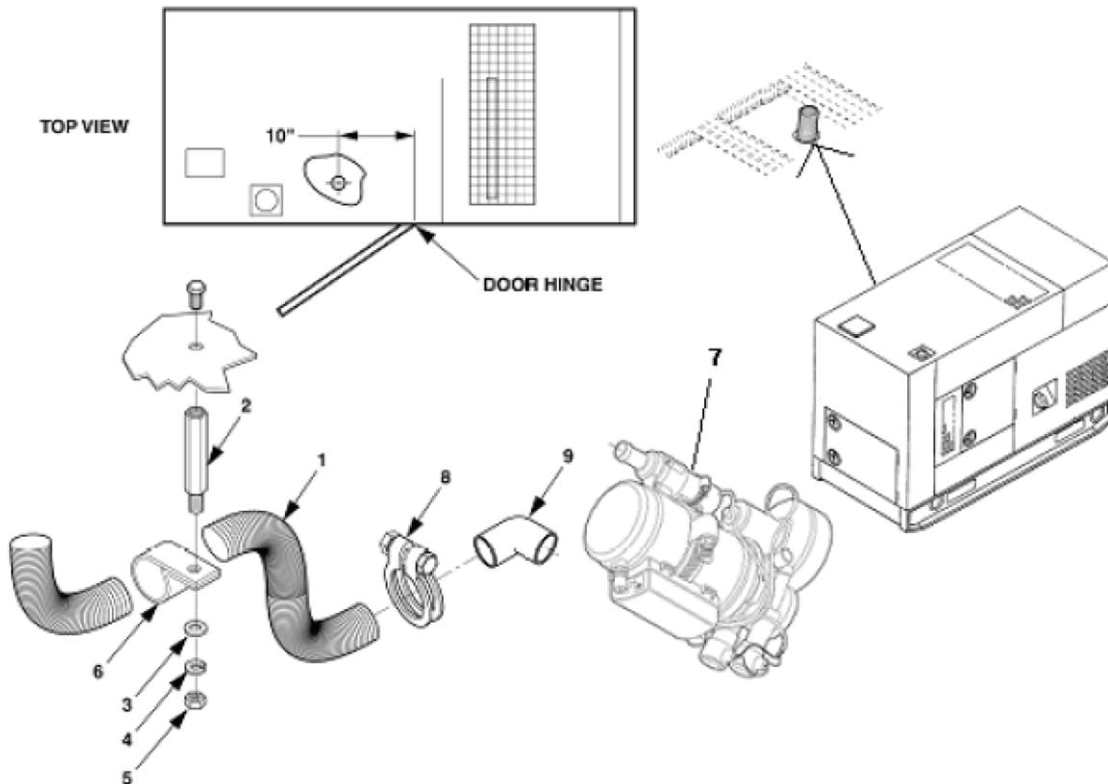

Figure 2. Exhaust Hose Assembly.
5. Approximately 10" from inside of left door hinge (Figure 2) and 3" from left side panel, drill 1-7/16" diameter hole in exhaust duct floor.
6. Attach one end of exhaust hose (Figure 2, Item 1) to exhaust elbow (9) with clamp (8). Apply 2 thick beads of RTV around exhaust port of heater (7) and attach exhaust elbow (9) to heater (7). Move elbow (9) in a position that doesn't interfere with anything in the route to the hole drilled above in Step 5.
7. Route exhaust hose (1) through hole drilled (Step 5) and turn hose down to exhaust duct floor. Using one of the existing screws that mount the air duct channel to the exhaust duct floor, attach spacer (2) to the existing screw that will allow the exhaust hose (1) to be secured approximately in the middle. Using RTV provided in kit, apply RTV around hose and hole in exhaust duct floor to prevent movement. Secure exhaust hose (1) to spacer (2) using clamp (6), nut (5), lockwasher (4), and washer (3). Reinstall top panel per WP 0016.